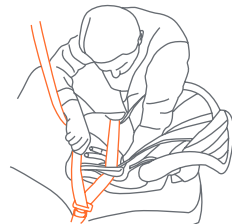

Fig. 48-3
- Tighten the vehicle lap belt around the Car Seat by pushing down hard with your hand on one side of the Car Seat and then the other side and pulling on the vehicle seat belt to tighten (Fig. 48-3).